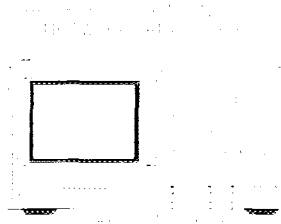

Figure 5-10. Transmission Calibration Setup
- 11** Connect the test port cables as shown Figure 5-10.